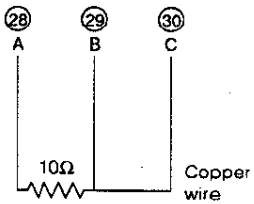

Figure 17-10
- (b) Short-circuit the terminals ⑳ and ㉓ then press  key after the display stabilizes.
- ② When C/J is released:
- (b) Remove short circuit from the terminals ⑳ and ㉓ then press  key after the display stabilizes.
- ③ Input C/J terminal temperature:
- ① If short-circuit occurs between RTD terminals ㉓ and ㉔: (Fig 17-10)
- (b) Connect as shown in Figure 17-10, then press  key after the display stabilizes.